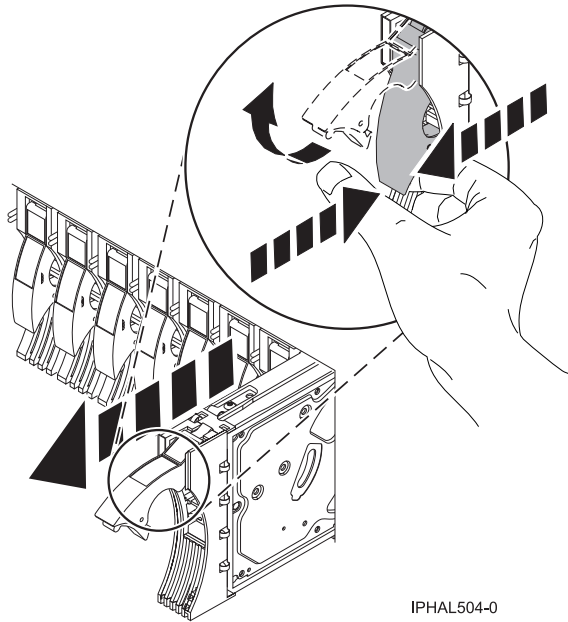

Figure 92. Removing a disk drive from a model or 7311-D20
2. Unlock the disk drive handle by squeezing it and pulling it out toward you, as shown in Figure 92 on page 109.